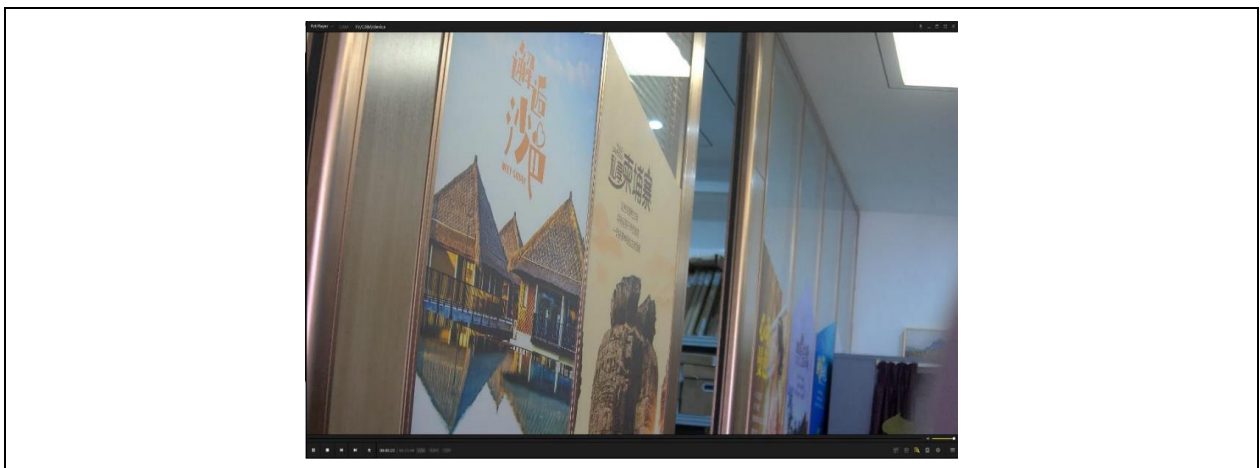

Figure 2.18 USB Video Player
5) Video output in “Potplayer” as Figure 2.18.